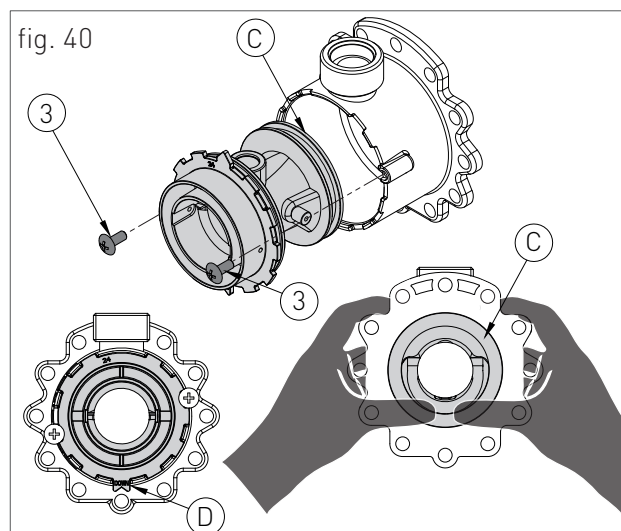

fig. 40
- › remove the two screws '3' (fig. 40) and apply pressure on the rear side of venturi 'C' (fig. 40);